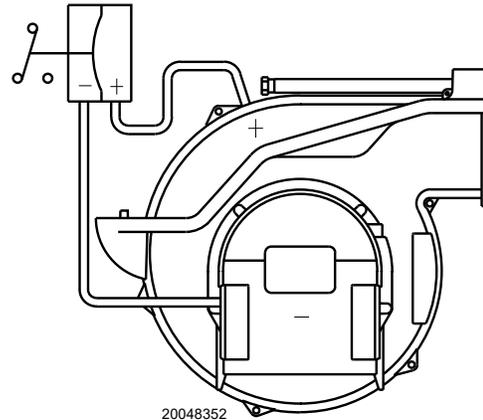

Fig. 35
- Adjust the air pressure switch (Fig. 35) to the start of the scale.
The air pressure switch is connected in differential (see Fig. 35) and is activated by both the negative pressure of the air intake and the air pressure from the fan.
Connect the pressure gauge as in Fig. 35 on page 30.